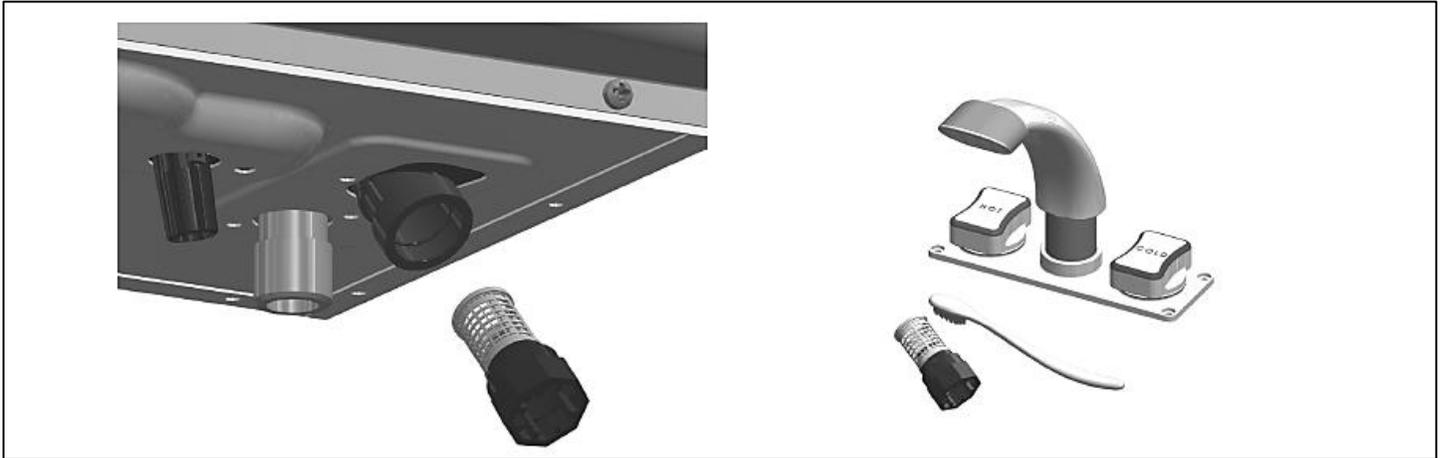

Figure 37 – Draining the Water Heater
5. Remove the cold water inlet filter. Then clean it with a toothbrush and clean running water. See Figure 37.